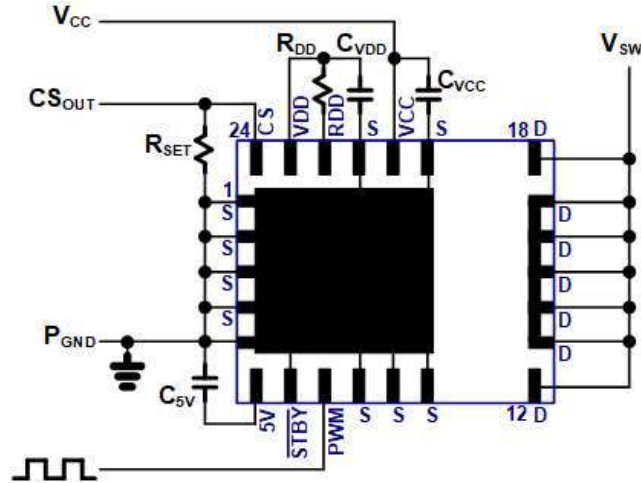

Fig. 20. IC connection diagram
The typical connection diagram for this GaN Power IC is shown in Fig. 20. The IC pins include drain of the GaN power FET (D), source of the GaN power FET (S), IC supply (V_{CC}), gate drive supply (V_{DD}), gate drive turn-on control SET input (R_{DD}), PWM input (PWM), separate signal GND, current sensing output (CS), auto-standby mode input (\overline{STBY}), and 5V output (5V). The Source pad and Source pins (S) should all be connected to the system P_{GND} . The Source pins (S) should each be connected externally to the Source pad directly underneath the IC. The Drain Pins (D) should all be shorted together by copper in the layout (see section 9). The external components around the IC include V_{CC} filter capacitor (C_{VCC}) connected between V_{CC} pin and Source (S) pin, V_{DD} filter capacitor (C_{VDD}) connected between V_{DD} pin and Source (S) pin, turn-on dV/dt set resistor (R_{DD}) connected in between V_{DD} pin and R_{DD} pin, a current sense amplitude set resistor (R_{SET}) connected between CS pin and Source (S), and auto-standby mode pin (\overline{STBY}) connected to Source (S). An external capacitor (C_{5V} , 0.01uF max) is required between pin 5V and S. This 5V pin is for internal purposes only and must not be used for biasing external circuitry.